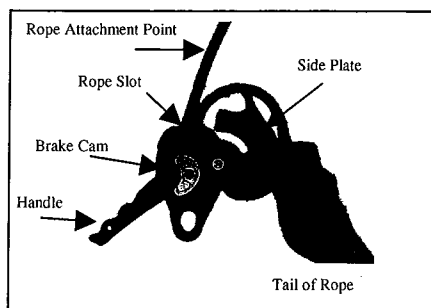

Figure 1
- Orient Spider Descender with stainless sideplate facing you and brake handle facing left. Depress lock button and rotate open sideplate. Grasp tail of rope, pull rope in through the top rope slot, down and around the left side of brake cam and back up and out of rope slot again leaving rope tail on right. (Fig 1)